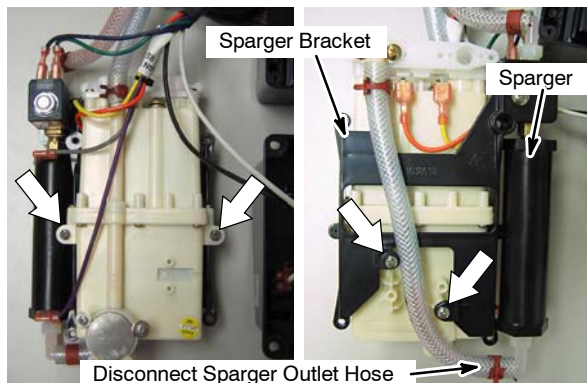

FIG. 4
5. Remove the sparger bracket from the e-cell. Four screws hold it in place. Disconnect hose at the sparger outlet. To remove hose, carefully slice hose lengthwise over the barbed fitting. (Figure 4)